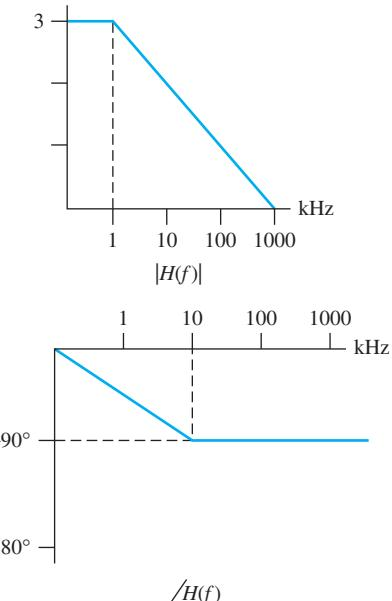

FIGURE P7.21 Frequency response for Problem 7.21.
- 7.21 (A)** Find the output of the filter represented by the frequency response in Figure P7.21, given the input: